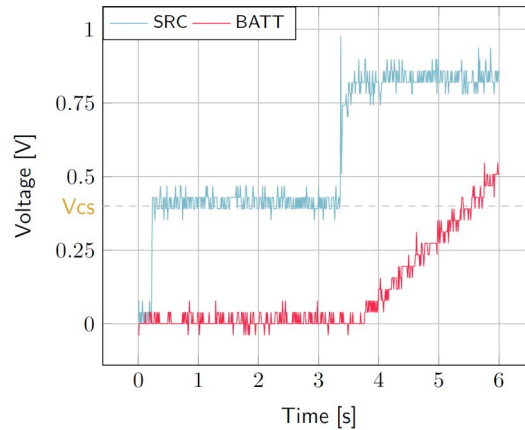

Figure 7: AEM10941 behavior during cold start
- **SRC**: equal to the cold-start voltage during the cold-start phase. Regulated at the selected MPPT percentage of V_{OC} when cold start is over (see Figure 7). Be careful that the cold-start phase time will shorten with the input power. Limit it to ease the observation.
- **BATT**: starts to charge when the cold-start phase is over (see Figure 7).